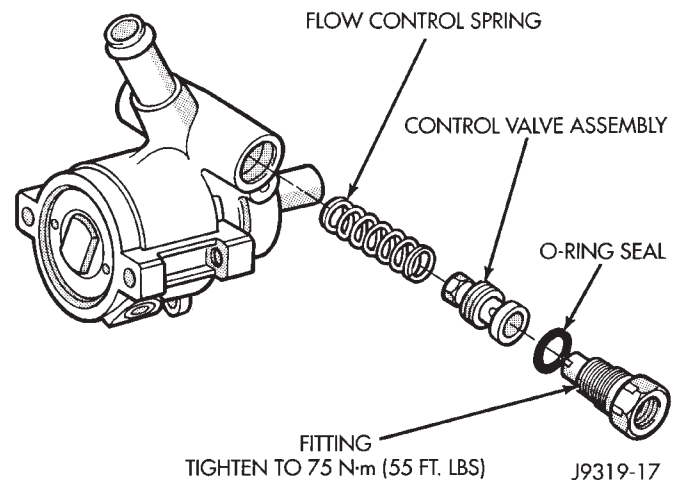

Fig. 9 Flow Control Valve Fitting
- (1) Clean area around fitting to prevent dirt from entering pump. Remove pressure hose from pump fitting.
- (2) Remove fitting from pump housing (Fig. 9). **Prevent flow control valve and spring from sliding out of housing bore.**
- (3) Remove and discard O-ring seal.
- (1) If necessary, clean and install flow control valve and spring in pump housing bore. **Be sure the hex nut end of the valve is facing in toward the pump.**
- (2) Install O-ring seal onto fitting (Fig. 9).
- (3) Install flow control valve in pump housing and tighten to 75 N•m (55 ft. lbs.) torque.
- (4) Install pressure hose to valve.